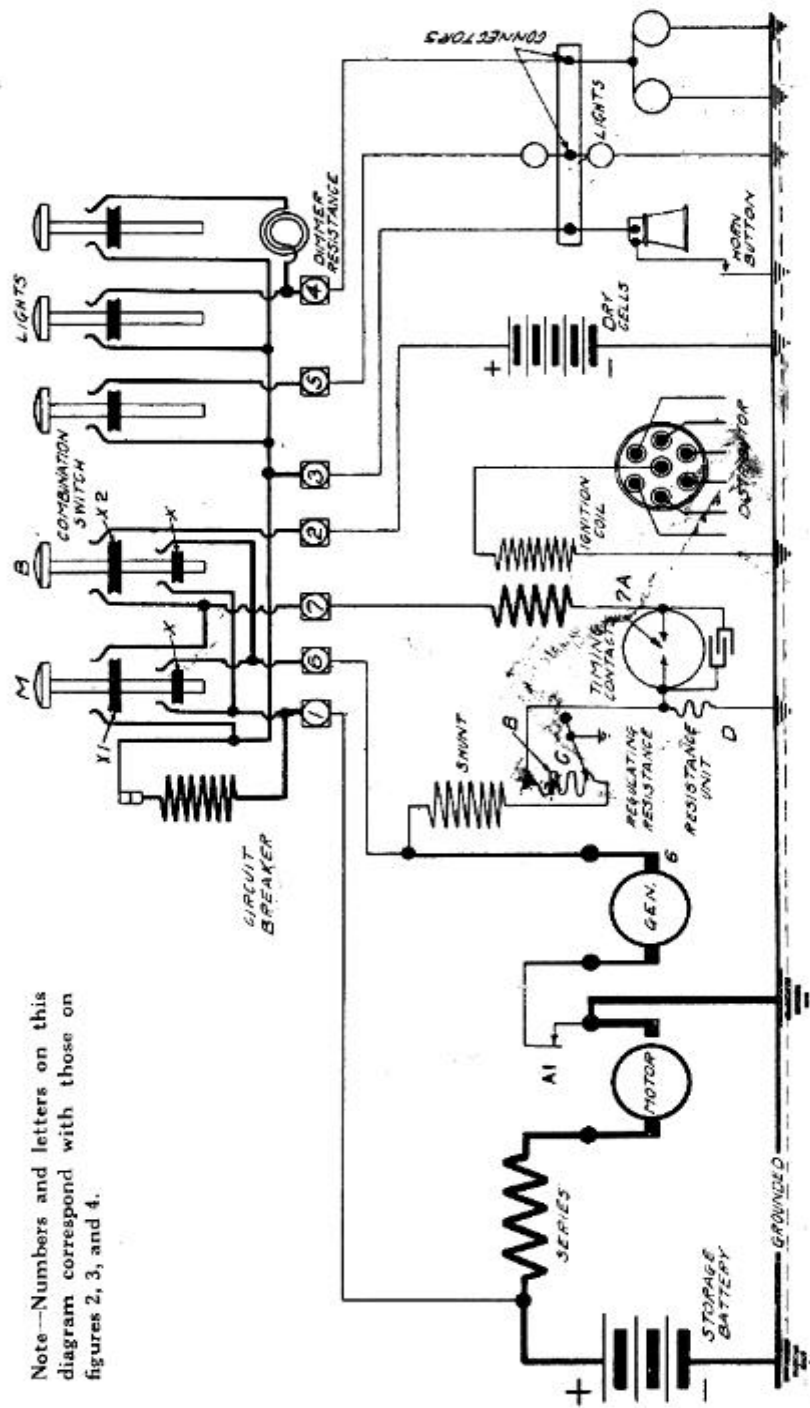
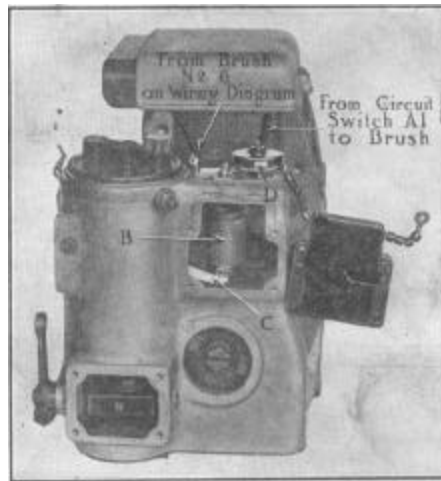

Fig. 1
Fig. 3
The generator, storage battery, motor, lamps, horn and ignition apparatus each have a connection "grounded" to some part of the frame of the car or engine. The other connections are made with copper wires or cables. All of these connections are shown diagrammatically in the simplified circuit diagram, Fig. 1.
Pull out the "M" button on the Combination Switch, Fig. 1, as far as it will come because it has two contacts to make. Slowly push the starting pedal forward and, as soon as the engine fires, release the pedal quickly.
When either the "M" or "B" button on the Combination Switch is pulled out, it closes the circuit between the generator and the storage battery at the contact (X) on the diagram, Fig. 1, and starts the armature of the generator, turning over slowly so that the gears can be meshed. The "M" button closes the magneto type ignition (at X-1). It should be used for all normal starting and running conditions.
This is accomplished through a special resistance wire wound on a spool of noninflammable material and mounted in the distributor housing just back of the condenser as shown at "B" in Fig. 3. By inserting some of this resistance in the shunt field circuit at the higher speeds, the output is controlled automatically by the same mechanism that advances the spark. The circuit can be readily understood by referring to the circuit diagram, Fig. 1, and from this circuit diagram it can be seen that all of this resistance is in the shunt field circuit when the arm "C," Fig. 3, is at the top position; that is, at maximum speed. Also, the ignition resistance unit is grounded through the output resistance and is cut out of the ignition circuit when the arm is at the top position. This increases the intensity of the spark at high speeds.
The headlights are dimmed by cutting the resistance into the headlight circuit shown on Fig. 1. This resistance checks the flow of current to the lamps, causing there to operate at a lower candle power.
The Circuit Breaker is mounted on the Combination Switch as shown at Fig. 1. This unit is a protective device, which takes the place of fuses., It prevents the discharging of the battery or damage to the wiring and lamps, horn or ignition, in case any of the wires leading to these parts become grounded. As long as the lamps, horn and ignition are using the normal amount of current the circuit breaker is not affected. But in the event of any of the wires becoming grounded, an abnormally heavy current is conducted through the circuit breaker, thus producing magnetism which attracts the armature and opens the contacts. This cuts off the flow of current, which allows the contacts to close again and the operation is repeated, causing the circuit breaker to pass an intermittent current and give forth a tapping sound.
The distributor and timer is carried on the front end of the motor generator and is driven through a set of spiral gears attached to the direct coupled end of the generator clutch as shown in Fig. 3.
The Ignition Resistance unit has connected in parallel with it, the Regulating Resistance. When the arm "C," Fig. 3, is in the lower position, the resistance of this path greatly exceeds that through the resistance unit, and practically all the ignition current passes through the ignition resistance unit. But as the arm raises, as at high speeds, this resistance is decreased, and when the arm is at the top position the full voltage is applied to the ignition coil.
In the event of the ignition resistance unit being disconnected or burned out, it is impossible to get sufficient current through the regulating resistance, unless the arm "C," Fig. 3, is held near the top.